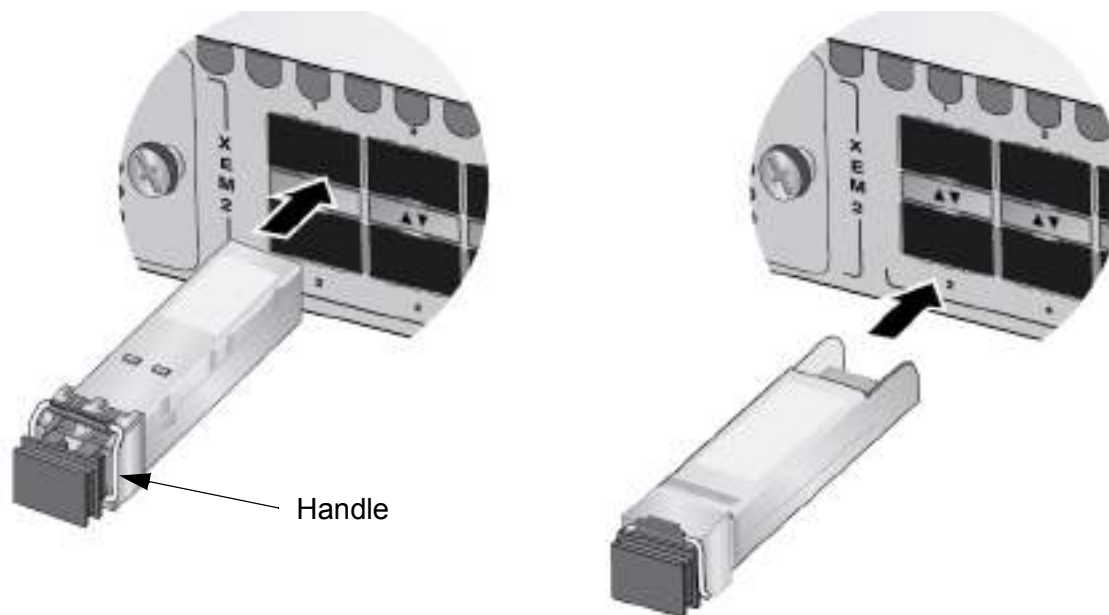

Figure 116. Installing an SFP or SFP+ Transceiver
- To install a transceiver in an odd numbered port, position it with its handle on top. To install a transceiver in an even numbered port, position it with its handle on the bottom. Refer to Figure 116 on page 176.